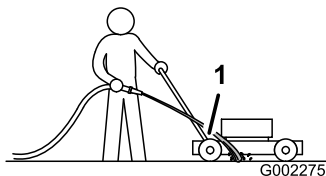

Figure 33
3. Hold the running garden hose at handle level and direct the water to flow on the ground just in front of the right rear tire (Figure 33).